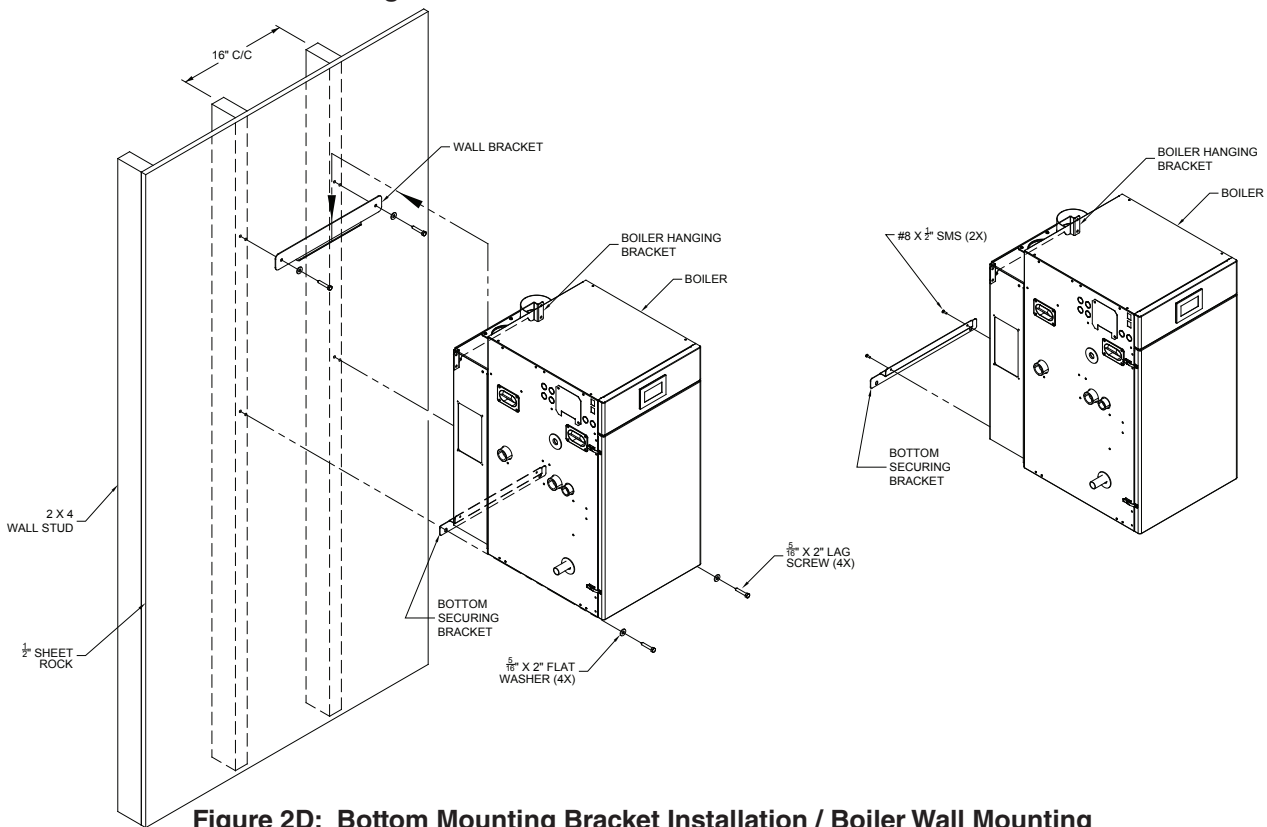

Figure 2D: Bottom Mounting Bracket Installation / Boiler Wall Mounting
- h. Attach the wall hanging bracket using the 5/16 in. x 2 in. lag screws and 5/16 in. plated washers, or other suitable anchors as appropriate (Figure 2D). Make sure the bracket is level.
- i. Attach Bottom Securing Bracket to boiler air box with two #8 x 1/2 in. Phillips round head sheet metal screws. Refer to Figure 2D for details.
- j. Hang the boiler on the installed wall bracket as shown in Figure 2D.
- k. If not already done in Step (4) locate and drill holes “C” and “D” using the ob-round slots in the Bottom Securing Bracket. Secure the Bracket to the wall using the 5/16 in. x 2 in. lag screws and 5/16 in. plated washers, or other fasteners as appropriate (Figure 2D).